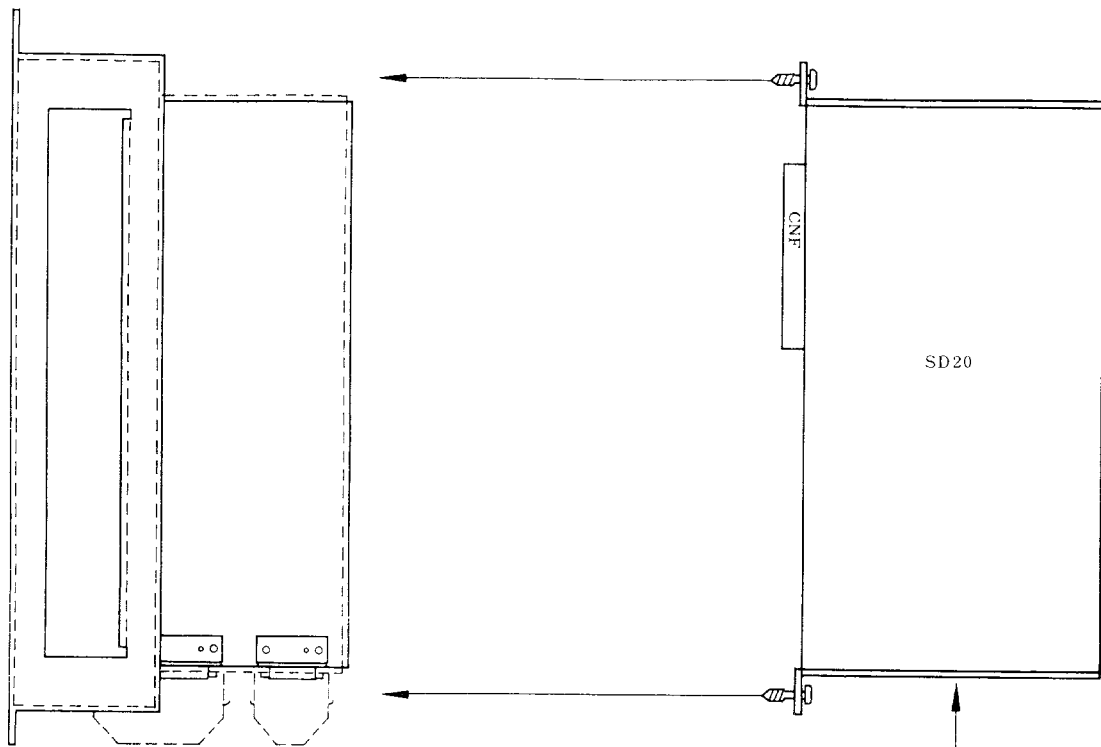
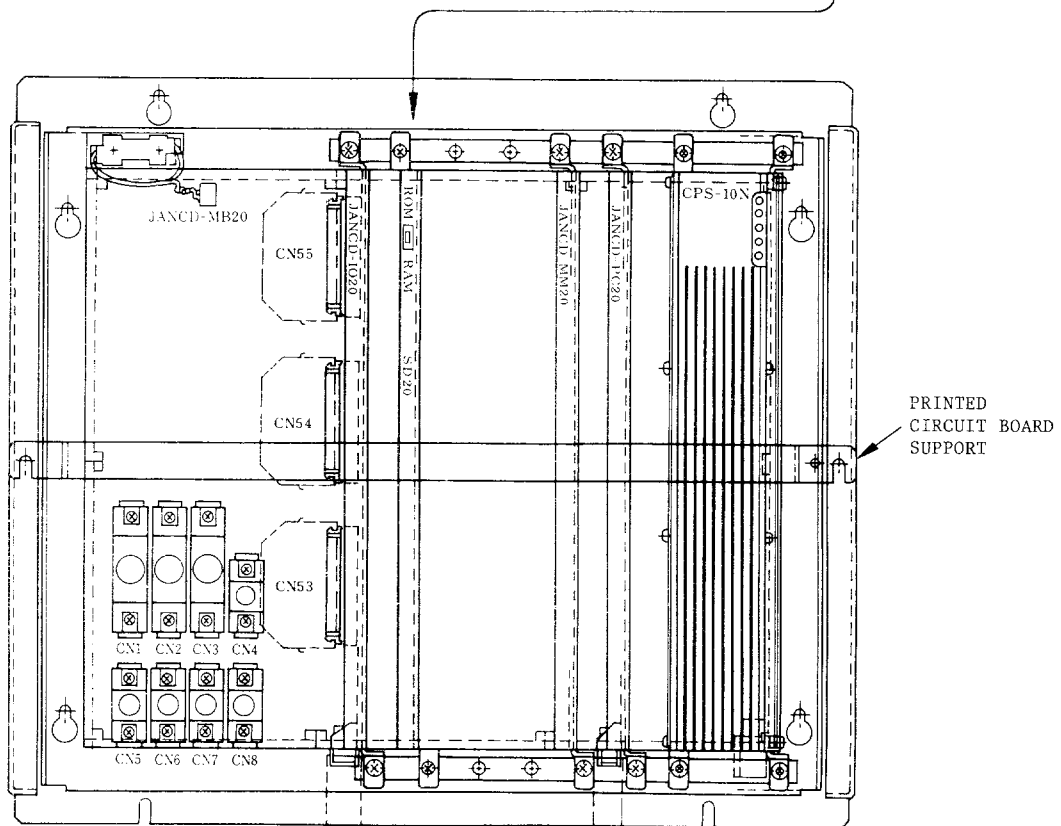

Fig. 9.3 SD20 Installation
Fig. 9.4 SD20 Connection on CPU Rack
- (1) Turn off the NC unit power supply and open its door.
- (2) Remove the printed circuit board support on CPU rack.
- (3) Install the XSD20 with attached screws onto the CPU rack, as shown in Fig. 9.3.
- (4) Mount the printed circuit board support on CPU rack.
- (5) Fig. 9.4 shows a setup with all connections completed.